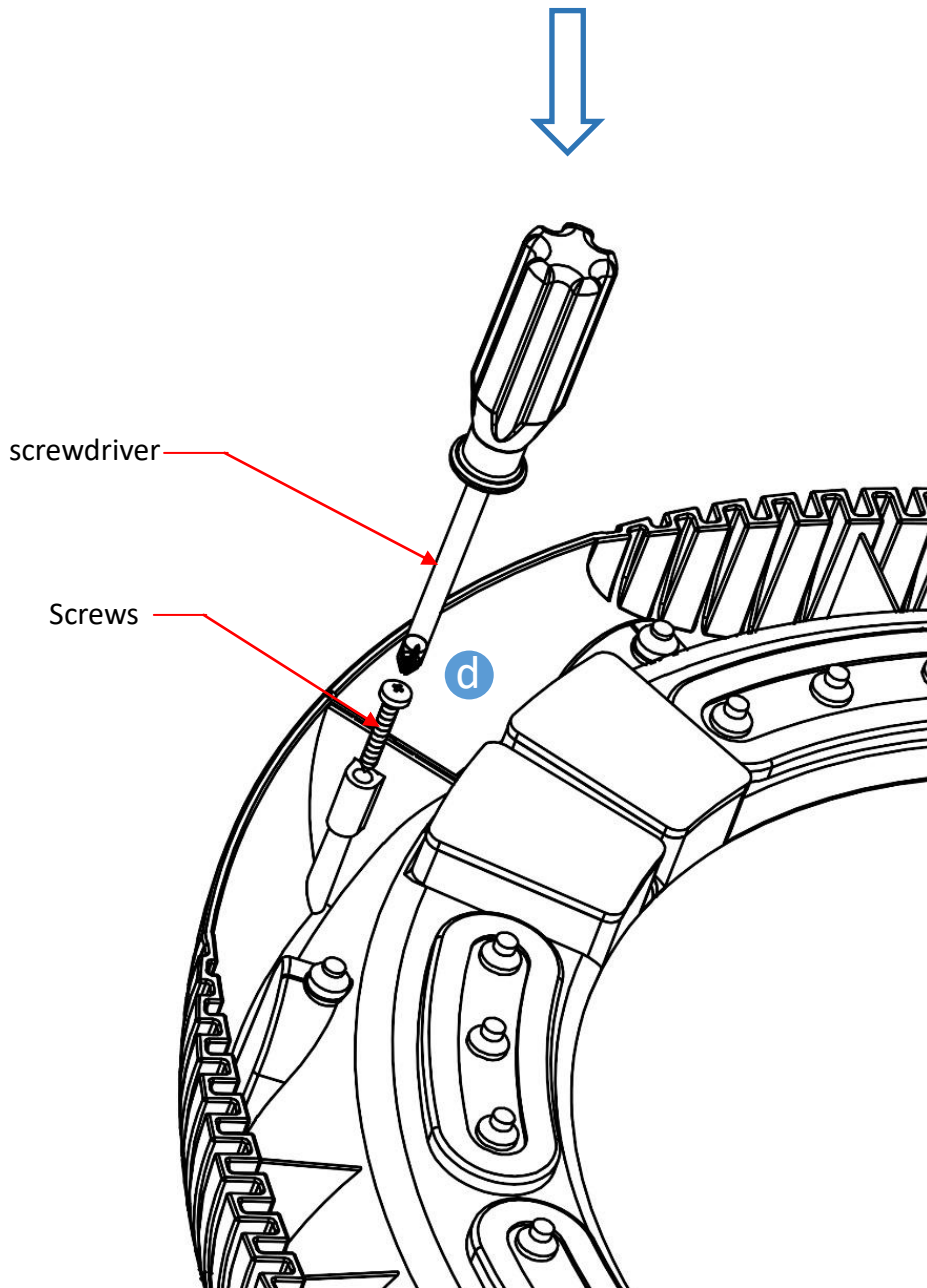

Figure 6
- ② As shown in figure 6, Tighten the screw with a screwdriver.